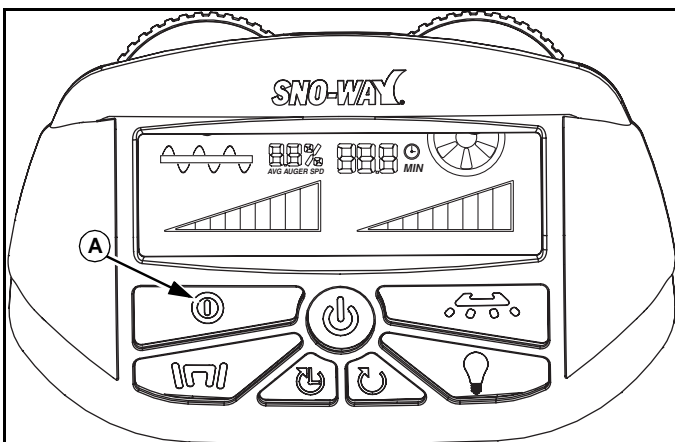

Figure 1-9
When the Pause/Run Button (A) is pressed, the unit will begin running and all desired functions can operate. The auger, the spinner, the vibrator, the wetting system and the light can operate in run mode. (See Figure 1-9.)